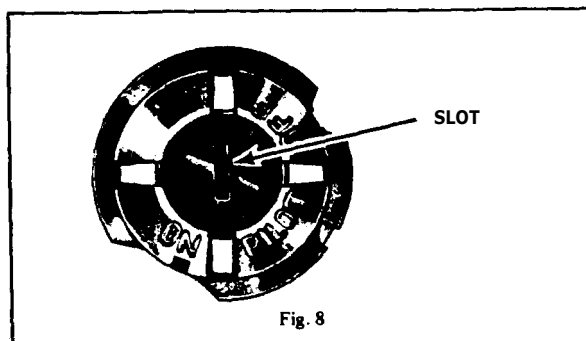

Fig. 8
1. Remove regulator adjustment cap by inserting screwdriver in slot and rotating counterclockwise (See Fig. 8)